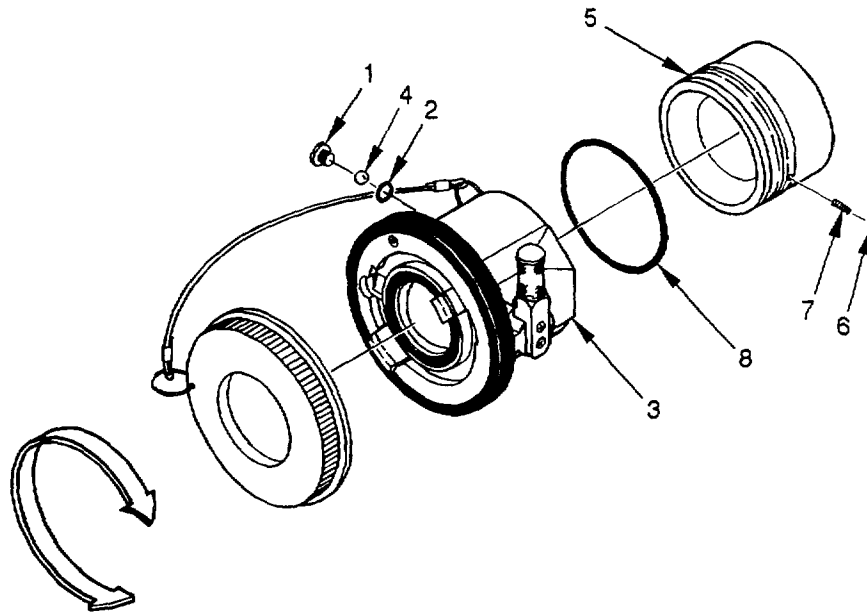

Figure 4-8. Flange Mounted Unisex Coupling Replacement
- (1) Wipe clean the O-ring groove.
- (2) Lightly lubricate with petrolatum and install O-ring (6) in groove.
- (3) Position coupling assembly (4) on fuel transfer pump (5) so that valve handle (7) is on top, and install the six bolts (1), lock washers (2) and flat washers (3) to secure the coupling to the fuel transfer pump. Torque bolts in a crossing pattern to 80-90 in. lbs. (8.8-9.9 Nm).
4.11.2 Replace Flange Mounted Three-Inch Unisex Coupling. (Refer to figure 4-8.)